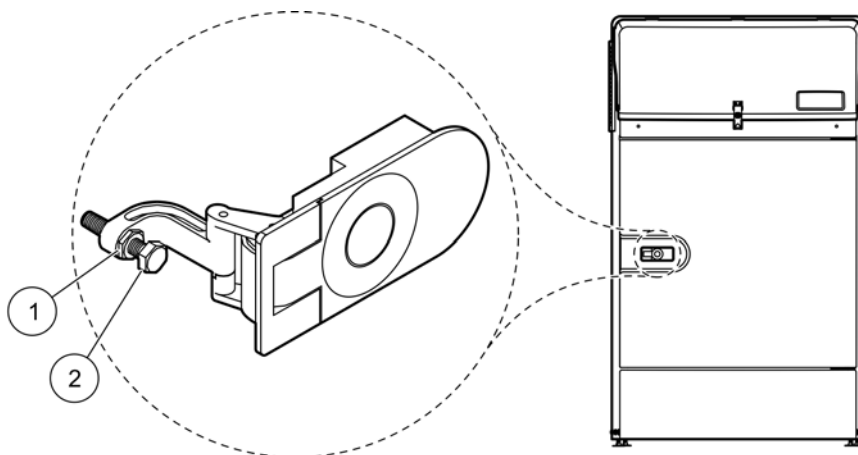

Figure 30 All weather refrigerated sampler door latch
1. Loosen the lock nut (Figure 30).